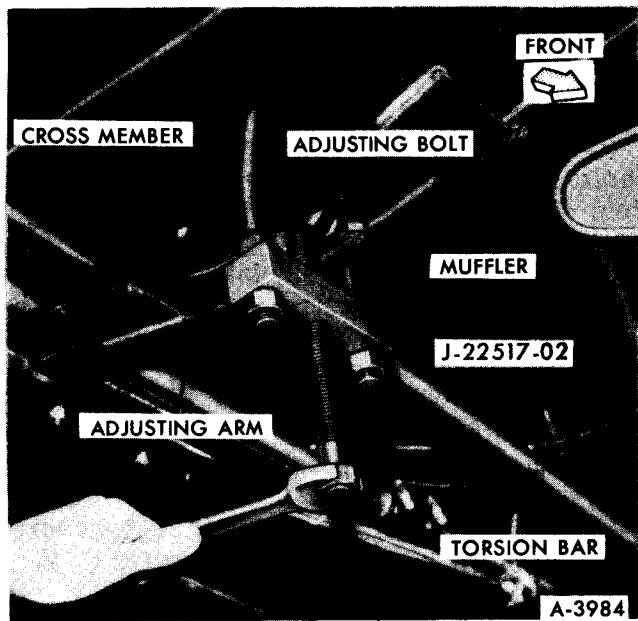

Figure 24—Removing Torsion Bar
3. Turn center screw until seated in dimple of torsion bar adjusting arm. See figure 24.
11. Turn center screw until adjusting arm is in a position to allow installation of adjusting nut. See figure 24.
NOTE: Tool J-22517-02 (shown in figure 24) must be used the reset ride height. This tool will raise or lower the torsion bar rear anchor arm so that the adjusting bolt is not loaded.